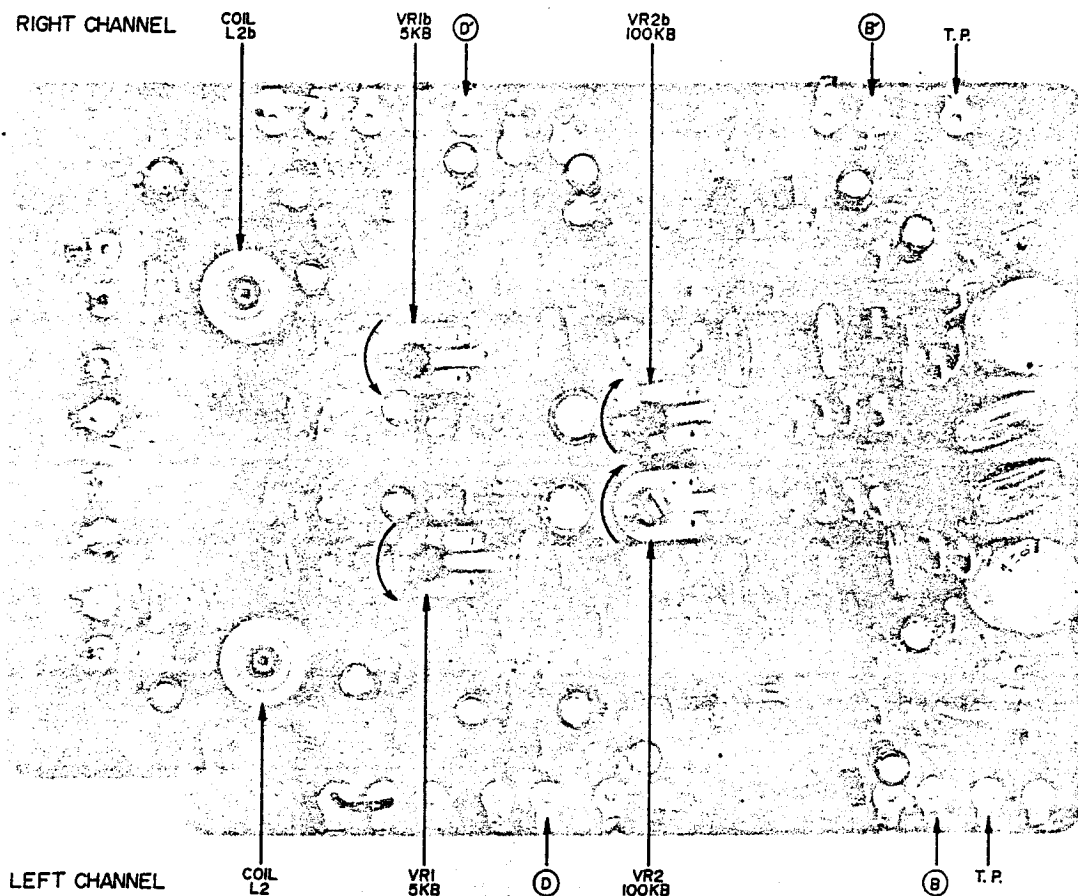

Fig. 26
- Turn Dolby Amp. P.C. Board (CS-5326) Dolby Amp. Gain Adjustment semi-fixed resistors (VR2 and VR2b 500 B) as well as FET Gate Bias semi-fixed resistors (VR1 and VR1b 5k B) as far as they will go in the direction of the arrows shown in Fig. 26.
- Turn Dolby Switch (SW-10) to OFF position and, as shown in Fig. 26, ground Test Point "T.P." (FET Gate).
- At this condition, further adjust the Attenuator so that the line output level at Point (D) shown in Fig. 26 is -28.5 dB. At this time, confirm that the level at Point (B) shown in Fig. 26 is  $-28.5 \pm 0.5$  dB.
- Turn Dolby Switch (SW-10) to ON position. At this time, adjust Dolby Amp. Gain Adjustment semi-fixed resistors (VR2, and VR2b 500 B) until the voltage at Point (B) shown in Fig. 26 is increased by 10 dB.
- Disconnect ground from Test Point "T.P." (FET Gate). At this time, adjust FET Gate Bias Adjustment semi-fixed resistors (VR1, and VR1b 5k B) so that the voltage at Point (B) shown in Fig. 26 is reduced by 2 dB.